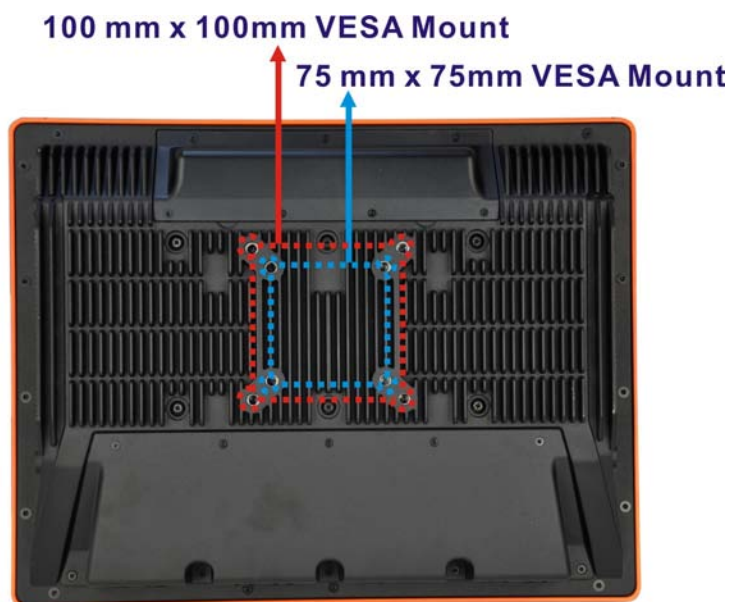

Figure 3-7: VESA Mount Retention Screw Holes
The panel PC is VESA (Video Electronics Standards Association) compliant and can be mounted on an arm, a stand or a bracket with a 100 mm/75 mm interface pad. M8 and M4 mounting screws can both be used for VESA mount. The VESA mount retention screw holes of the UPC-V315-QM77 are shown in **Figure 3-7**.
- Step 3:** Align the retention screw holes on the mounting arm interface with those in the panel PC. The arm mount retention screw holes are shown in **Figure 3-7**.
Step 1: Locate the screw holes on the rear of the UPC-V315-QM77. This is where the stand bracket will be attached. The stand mount retention screw holes are shown in **Figure 3-7**.